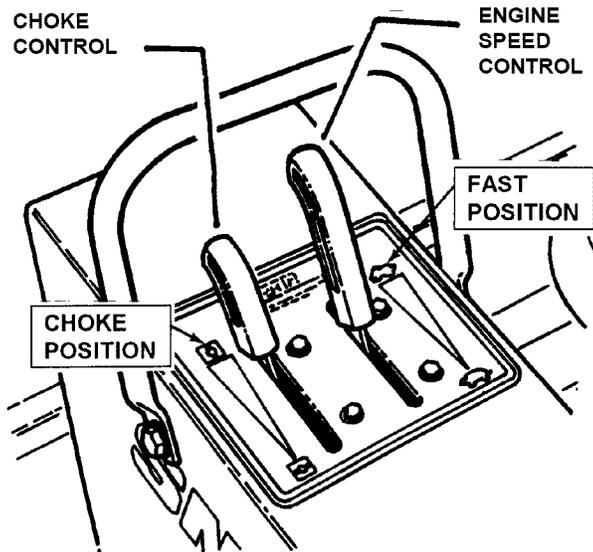

FIGURE 2.4
4. Move choke control forward to choke position to start a cold engine. See Figure 2.4.
5. Move engine speed control to the Rabbit "FAST" position. See Figure 2.4.
1. Stop engine by turning key to "STOP" position. Move engine speed to the Turtle "SLOW" position and turn key to "STOP". See Figures 2.4 and 2.5.
1. Start engine and set engine speed control to the Rabbit "FAST" position. See Figure 2.4.